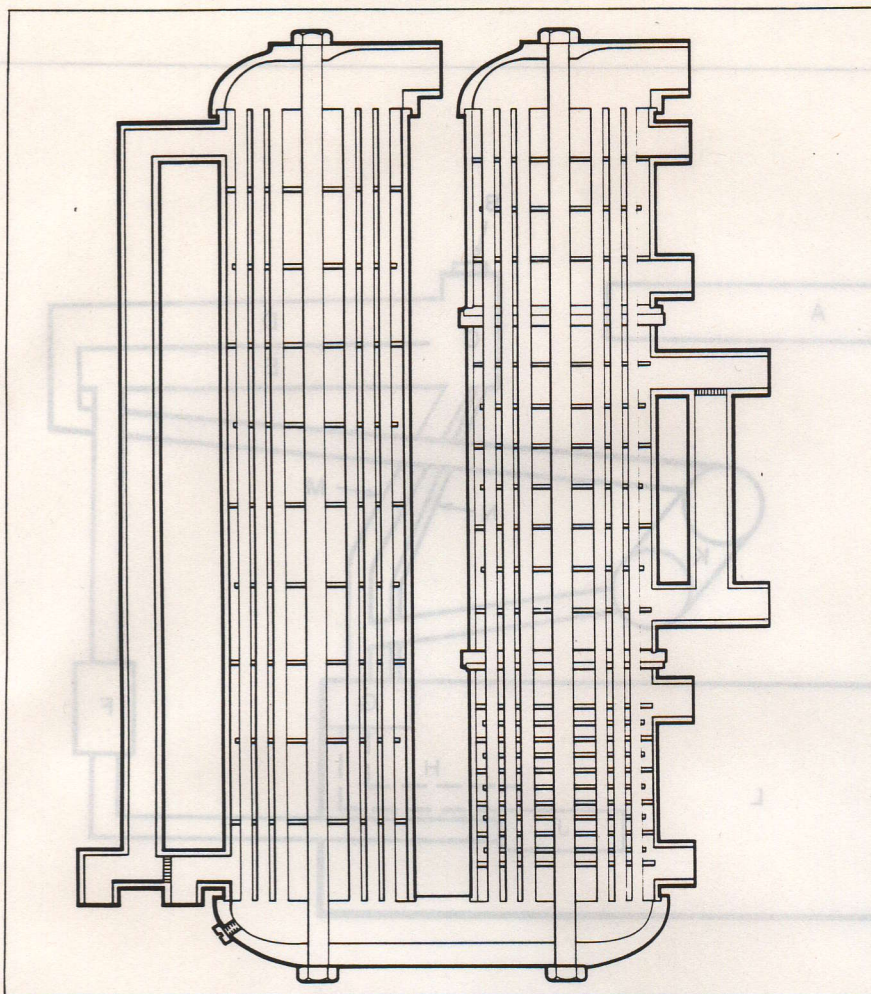

Fig 3.3 Heat Exchanger
- g. **Heat Exchanger.** See Fig 3.3. This consists of four units, one for each of the following: gearbox, steering unit, engine and hydraulic fan drive. They are clamped together to form two cylinders. There is a transfer tank at one end, and an inlet and outlet head at the other. The coolant flows through numerous tubes mounted axially on the units, in through the rear cylinder, through the transfer tank, and out through the front cylinder. Each oil section has its own oil inlet and outlet unions. The baffles which support the tubes ensure that maximum contact between oil and coolant tubes is maintained. The gearbox and engine units have relief valves to by-pass their respective sections should they become blocked.
- a. **Description.** The fans are driven hydraulically and the system comprises a pump, a motor for each fan, a controller unit, and a tank for the fluid. The fluid is passed through a section of the heat exchanger before being returned to the tank. The system is illustrated in Fig 3.3.